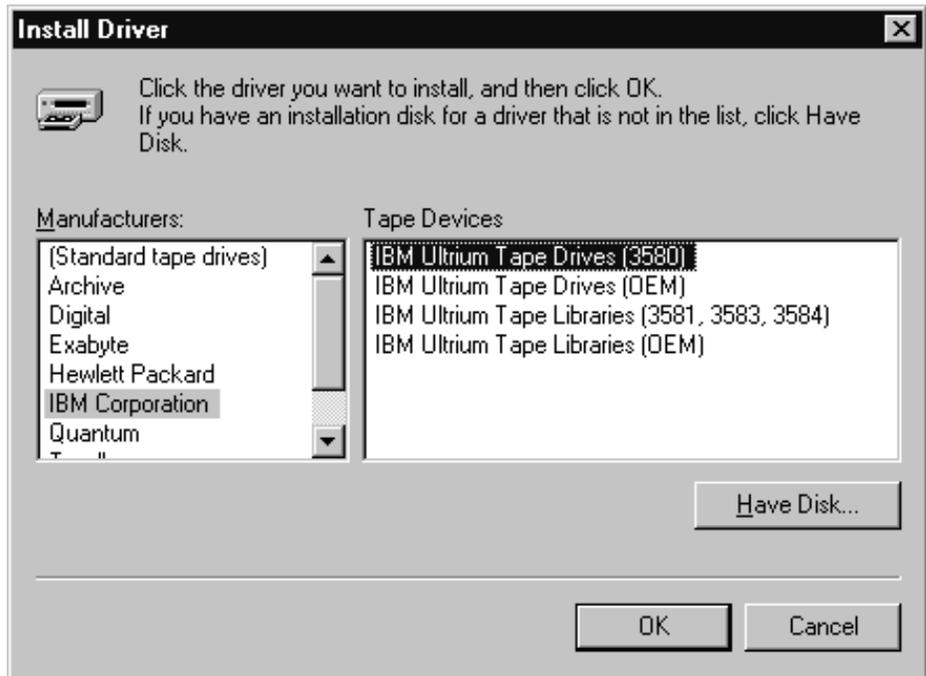

Figure 15. Install Driver Menu
8. Click **IBM Corporation**, select the device driver that matches your device, then click **OK**. See Figure 15.